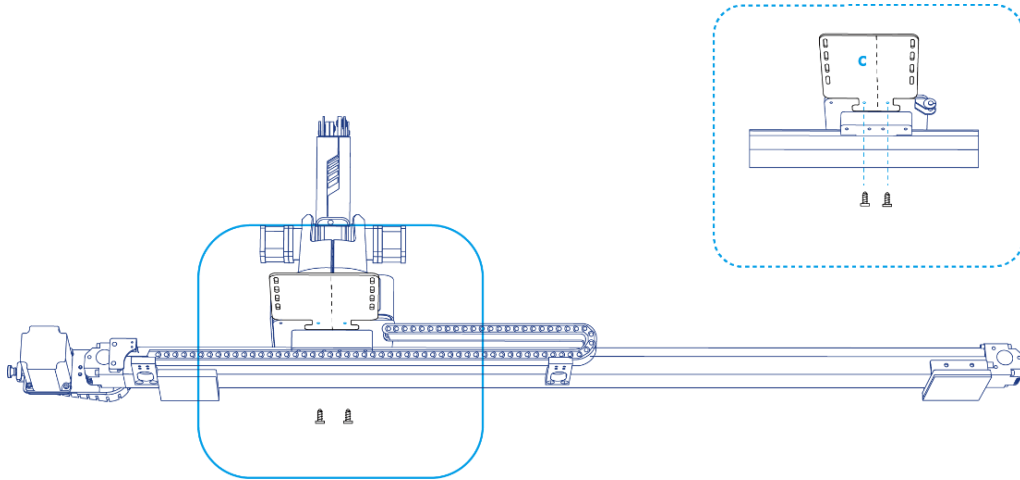

Figure 1.5 Fix plate **c**
1. Fix the plate **c** on the plate **a** with two M3\*8 hexagon socket head cap screws, as shown in Figure 1.5.